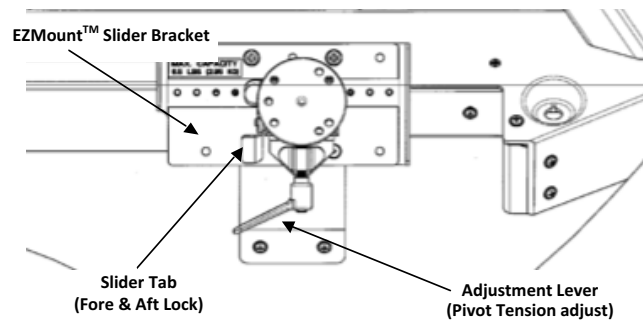

FIGURE 3:
- » The EZMount Slider is attached to the mounting bracket (see Figure 3)